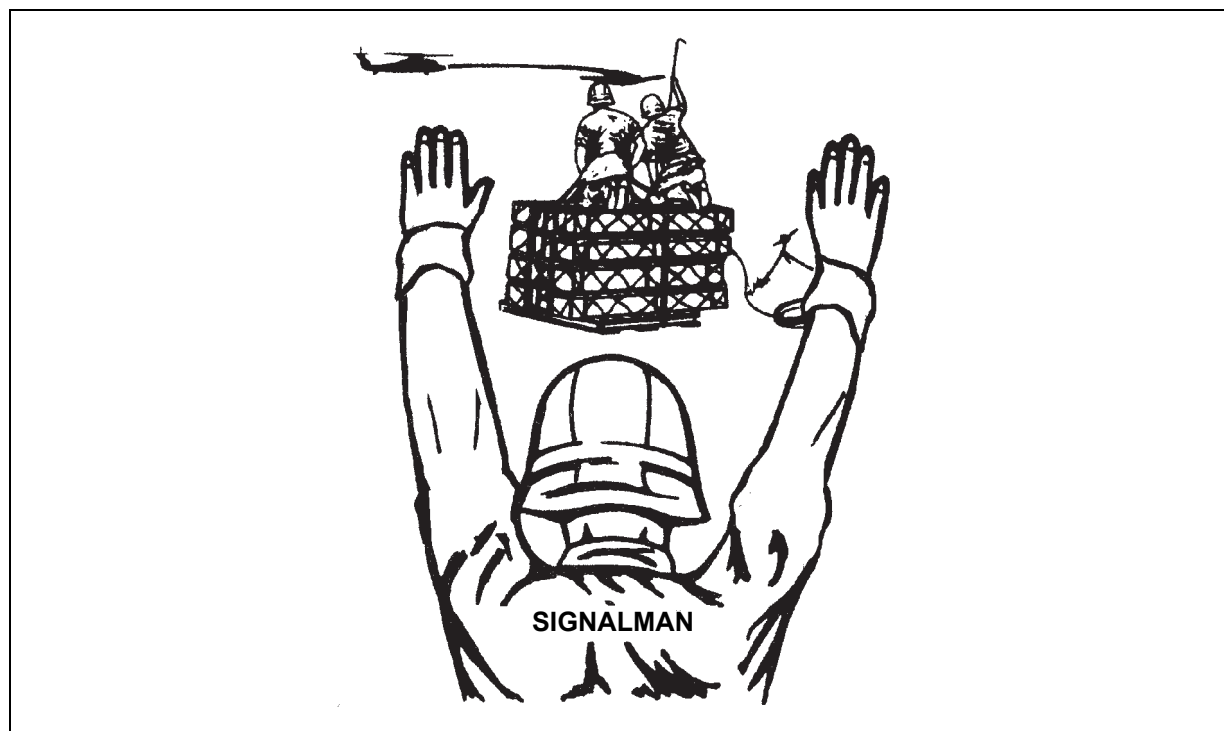

Figure 5-2. Ground Crew Initial Position
- **Positioning Personnel (ARMY).** As the helicopter approaches the landing site, the ground crew personnel put on their equipment and take up their positions. The signalman positions himself upwind of the load, facing the load and the aircraft (figure 5-2).